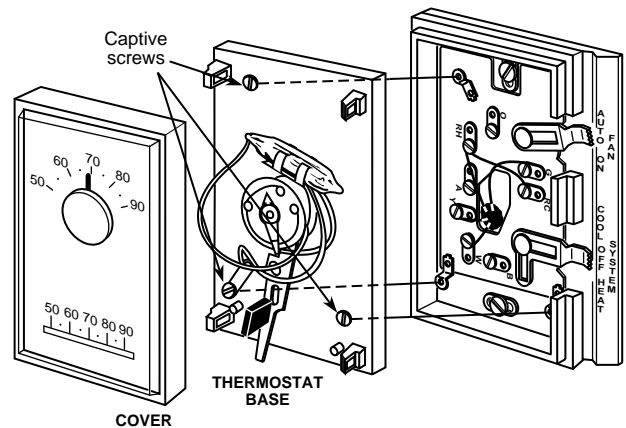

Figure 4. Attach thermostat to subbase
3. Attach thermostat base to subbase, being sure that all captive screws are tightened snugly, since they serve as electrical connections between thermostat and subbase (see fig. 4).